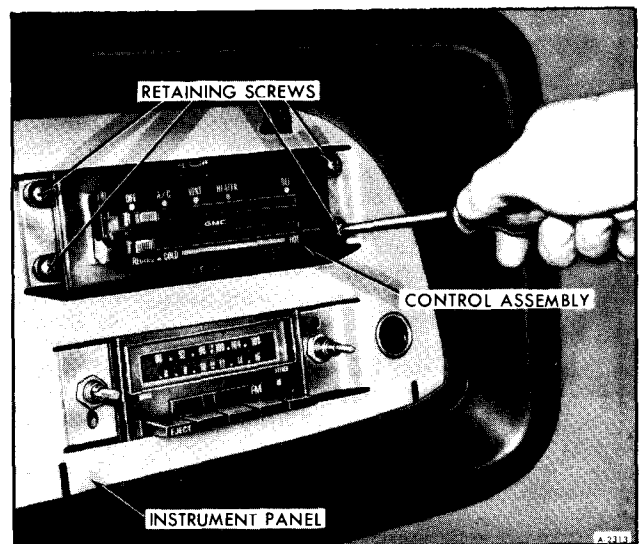

Figure 38—Removing Control Assembly
3. Remove four screws holding control assembly to instrument panel (figure 38).